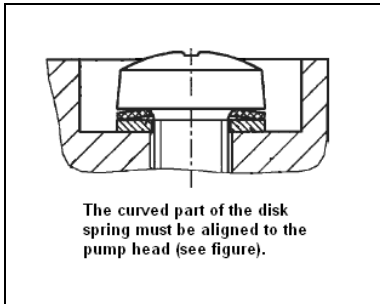

Fig. 27: Aligning the disk spring
1. Manually remove the four diaphragms (Fig. 27/8) by turning them in the counterclockwise direction.
**i** Use caution to prevent the shim rings (17) located between the diaphragm and the connecting rod from falling into the pump housing. The shim rings (17) must be installed in the same quantity as before to ensure the pump's pneumatic performance.
3. Manually screw the new diaphragms (Fig. 27/8) into the connecting rods' threads and tighten to hand tightness.